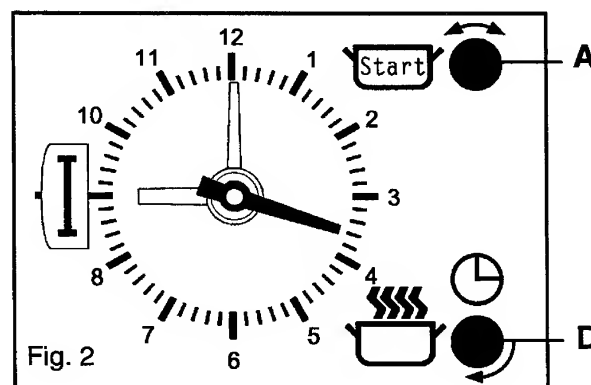

Fig. 2
Push in and turn setting knob (D) clockwise until the manual symbol (I) can be seen in the display window as Fig. 2.